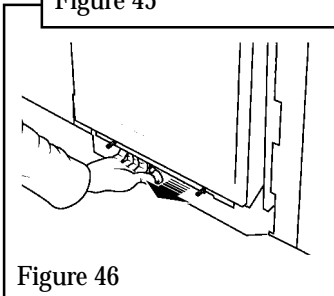

Figure 46
5. Similarly check the bottom of the window by pulling it forward and releasing. See figure 46.